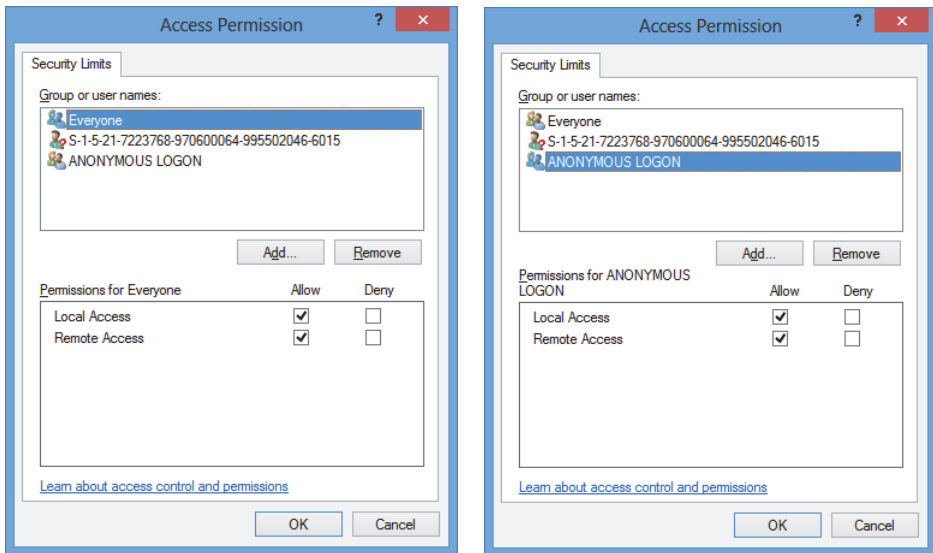

Figure 2-7 The Access Permission dialog box
6. In the **Access Permission** dialog box (see Figure 2-7 on page 35), set your access permissions: